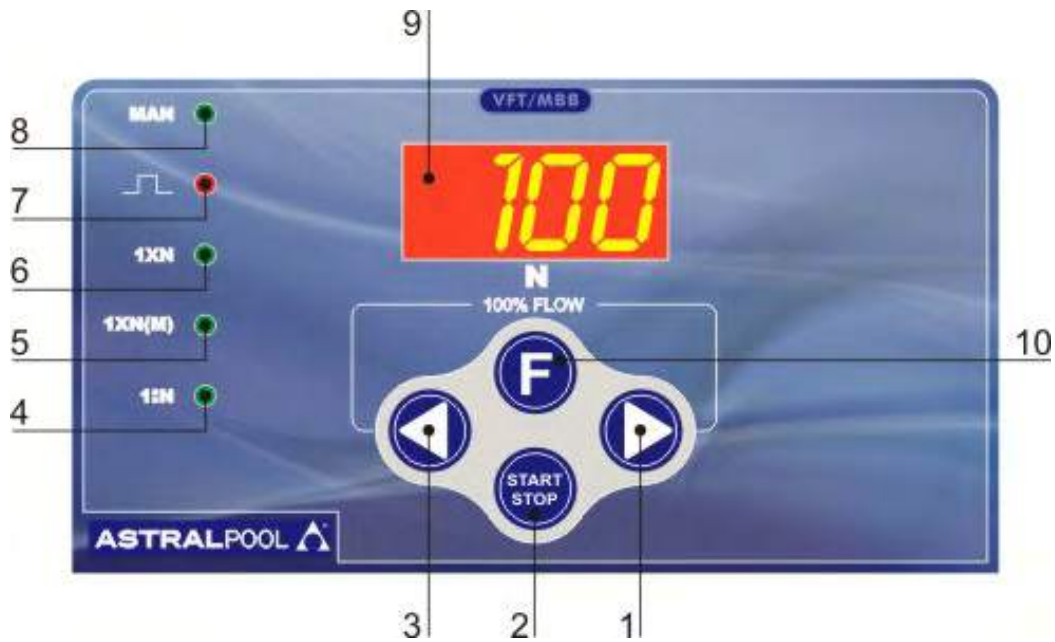
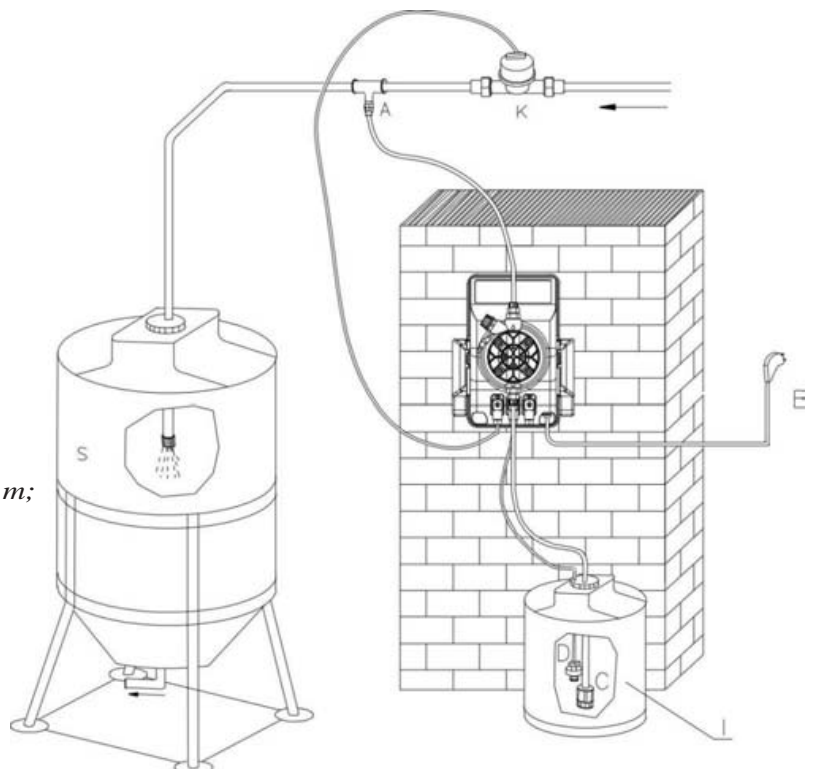

Fig. 18
Fig. 19
9.1 - PUMP CONTROLS (Fig. 18)
- 5 - "green" LED 1XN (M) function/water meter
9.2 - TYPICAL INSTALLATION (Fig.19)